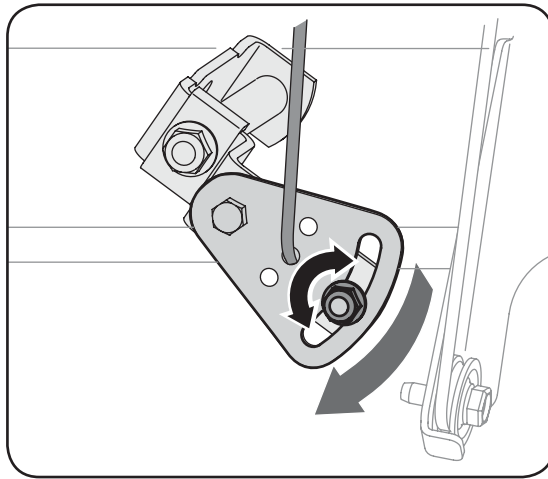

Figure 5-1
2. Loosen the hex nut on the shift cable index bracket. See Figure 5-1.